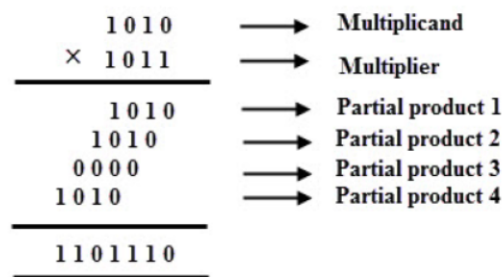

Figure 1: Binary Multiplication.
2. You will use a simple binary multiplication algorithm as shown in **Figure 1**. You should multiply the **multiplicand A** by each bit of the **multiplier B**. You should define 16-bit registers PP0, PP1, PP2, PP3, PP4, PP5, PP6, PP7 to save partial products. After that, perform summation of these partial products and obtain the final **result R**. The calculation of the values of registers is as follows: